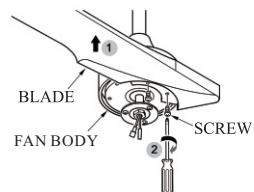

FIG.10
1. Attach each blade assembly to the fan body using the blade screws. Tighten them securely (see Fig.10)